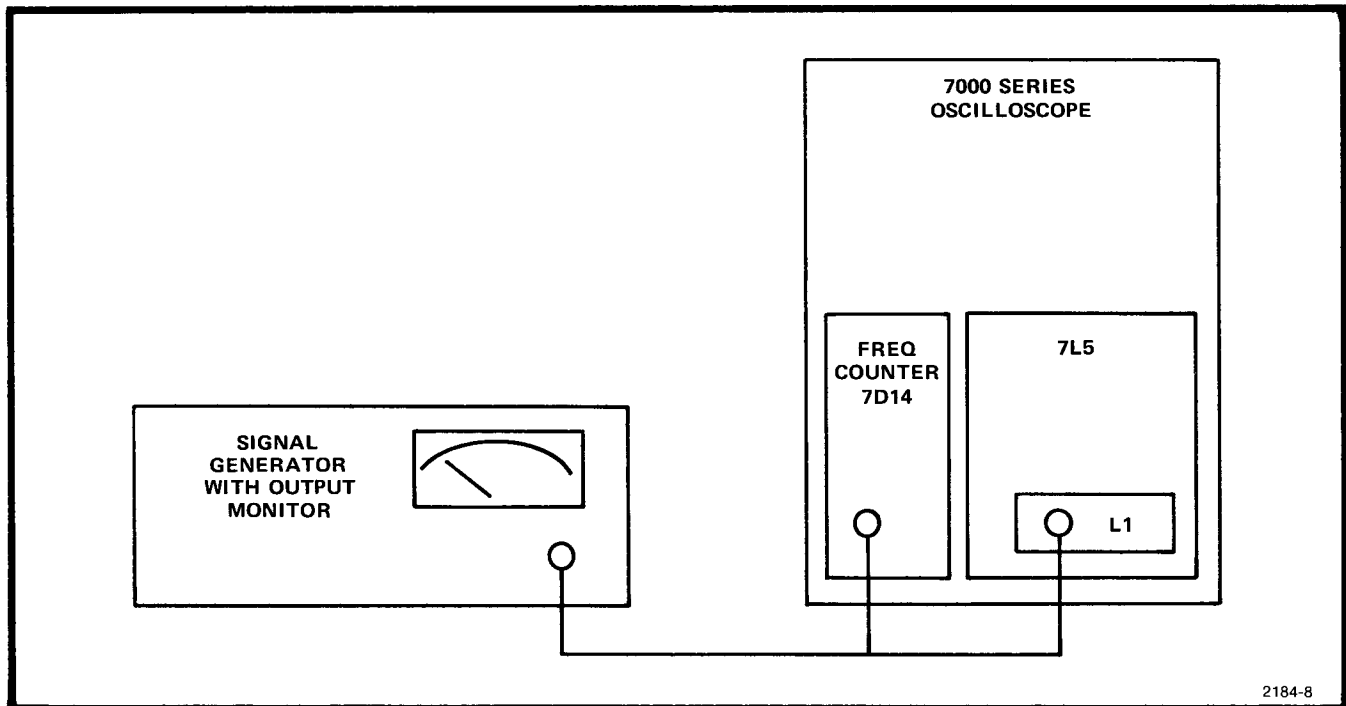

Fig. 3-2. Dot frequency range and display flatness test setup.
- a. Connect test setup per Fig. 3-2. Set triggering to NORM and FREE RUN and set the other front panel controls as follows:
a. Connect test setup per Fig. 3-2. Set the front panel controls as follows:
a. Connect the test setup in accordance with Fig. 3-2 using a stable signal generator; ( $\Delta$  frequency should be equal to or less than 0.5 Hz/hour).